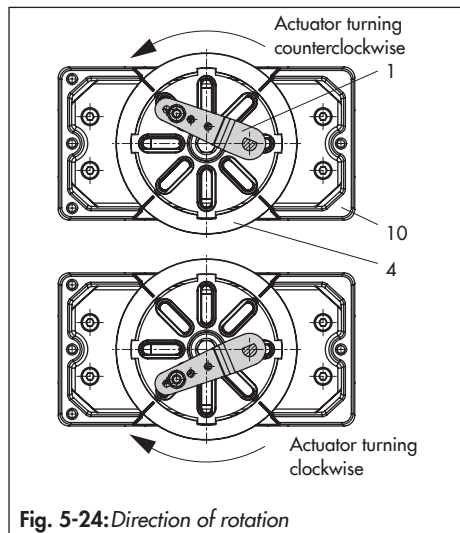

Fig. 5-24: Direction of rotation
6. Unscrew the standard follower pin (2) from the positioner's M lever (1). Attach the follower pin (Ø5 mm) included in the mounting kit to pin position 90°.
7. Mount connecting plate (6) for required G ¼ connecting thread or pressure gauge bracket (7) with pressure gauges on the positioner. Make sure that the two seals (6.1) are seated properly. Double-acting springless rotary actuators require the use of a reversing amplifier on the connection side of the positioner housing (see Chapter 5.6.7).
8. Place positioner on housing (10) and screw it tight. Taking the actuator's direction of rotation into account, adjust lever (1) so that it engages in the correct slot with its follower pin (Fig. 5-24).